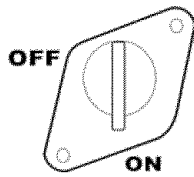

Figure 4- Fuel Valve in the “on” position
3. Turn the fuel valve to the “on” position (see figure 4).